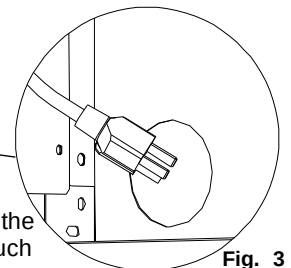

Fig. 3
- ☐ Pull out the Transformer Cord from the hole on the Cart Rear Panel. (See Fig. 3)
- ☐ Install the Tank Tray Set onto the Cart Bottom Panel using 3 Phillips Head Screws 3/16"x3/8" as shown in Fig. 3.